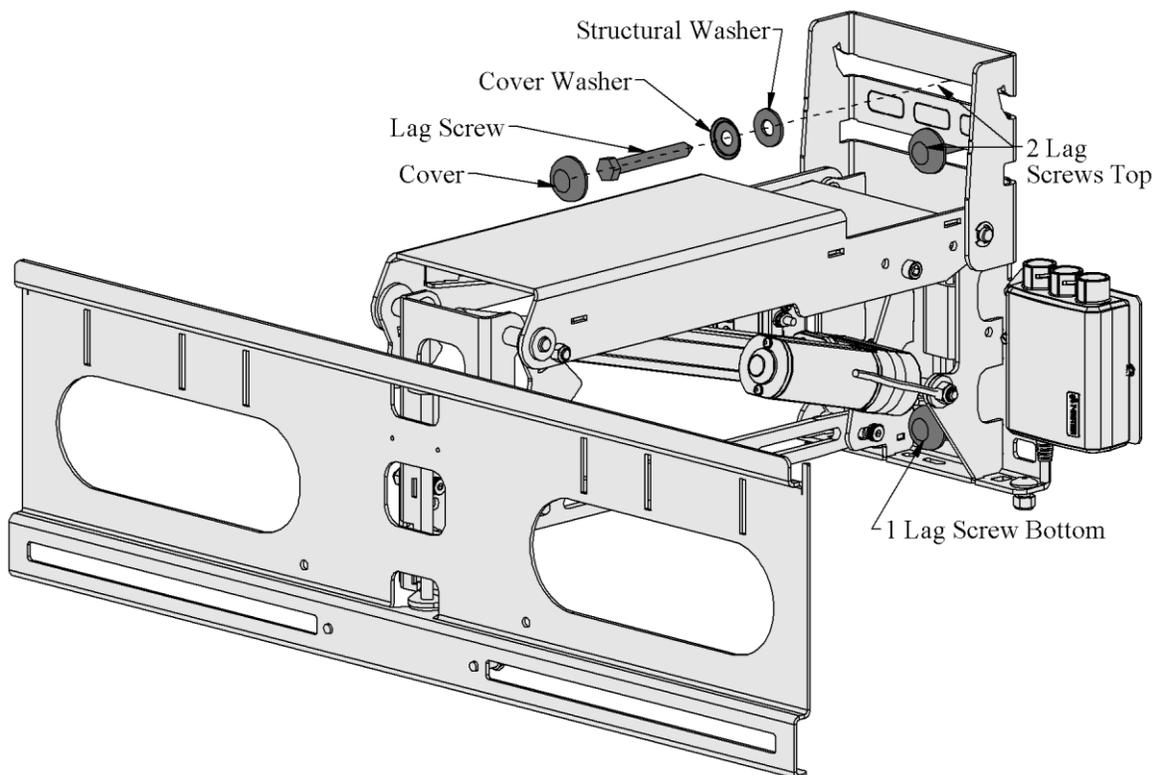

Figure 11, Mounting Single Stud to the Wall
- Figure 11 show the steps to successfully attach to the wall.